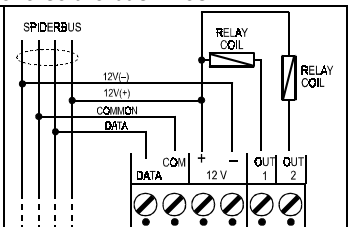

Figure 4-4. Bus, Power and Output Terminal Block Wiring
The SR-500 (ER) provides two output terminals (OUT1 and OUT2). These terminals, that are of the open-collector type, are under control of the head-end software - they can be activated (pulled LOW) and deactivated manually or by automatic computer command. Each output may be used to sound an alarm, to switch lights on and off, to open a door controlled by an electrical door strike, or for many other tasks. Since each open collector output can not sink more than 100 mA, an interface relay might be required for operating external devices, as shown in Figure 4-4.
SR-500(ER) may be connected to the SpiderBus via 4 terminals (Fig. 4-4) or via telephone type RJ-11 connector.
coil across the **OUT1** and **12 V(+)** or **OUT2** and **12 V(+)** terminals (as shown in Figure 4-4).